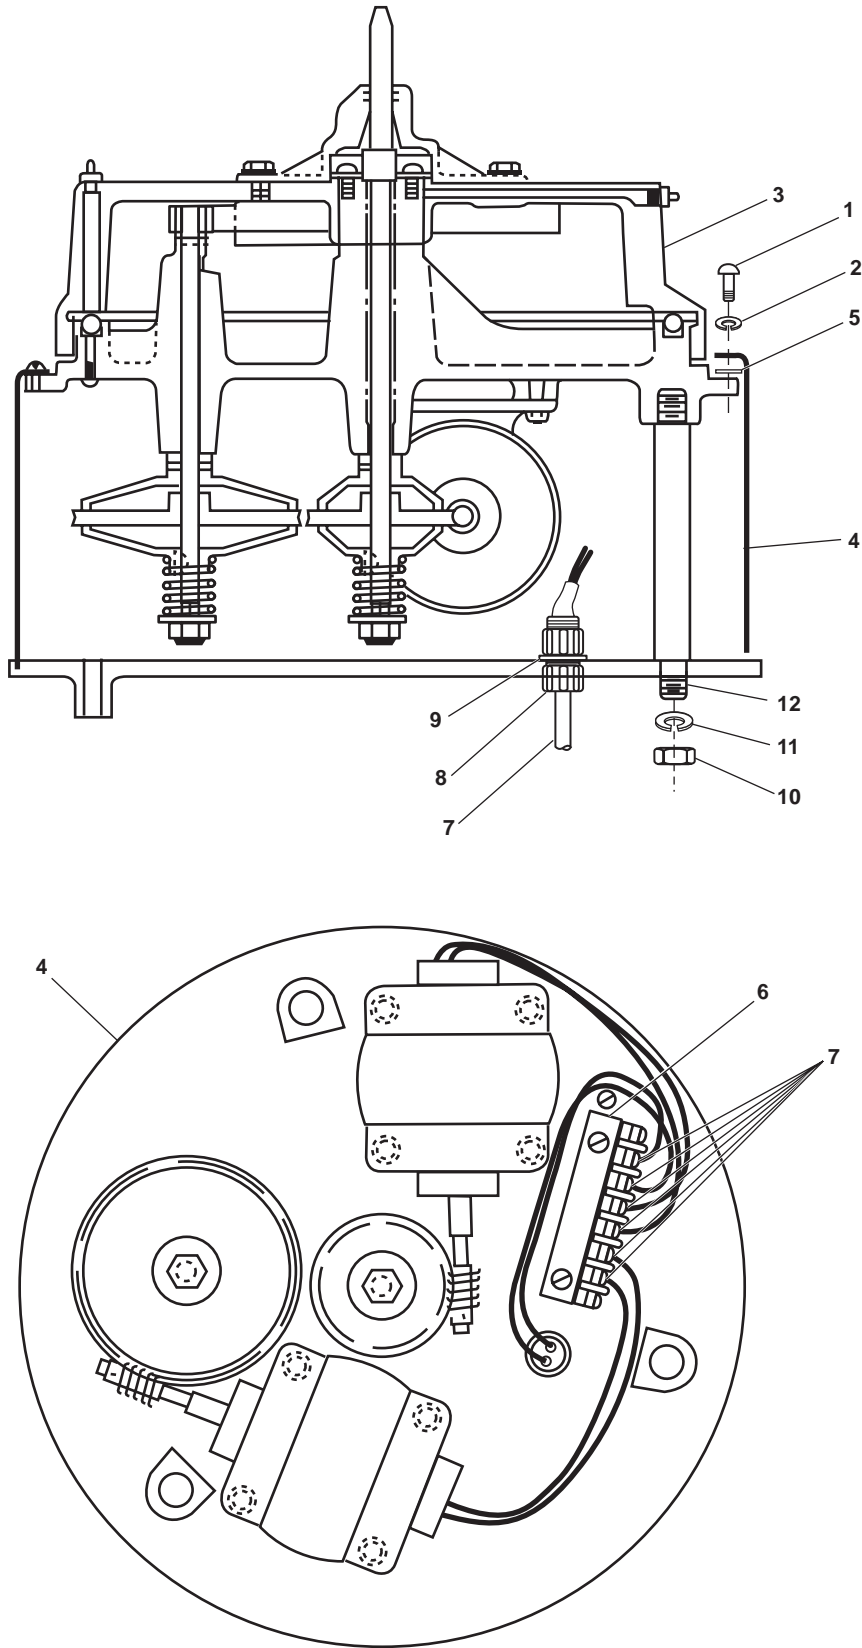

Figure 3. Searchlight Base Assembly
2. Remove the eight screws (figure 3, item 1) and eight lockwashers (figure 3, item 2) from the upper base assembly (figure 3, item 3). Discard the lockwashers.
3. Remove the upper base assembly (figure 3, item 3) from the lower base assembly (figure 3, item 4).
4. Remove the gasket (figure 3, item 5) from the lower base assembly (figure 3, item 4). Discard the gasket.
5. Use a multimeter to check for voltage at the terminal block (figure 3, item 6). If voltage is present, ensure that the proper circuit breaker is secured, locked out, and tagged out (FM 55-502). If no voltage is present, continue with the procedure.
6. Label and remove the wiring (figure 3, item 7) from the terminal block (figure 3, item 6).
7. Loosen the stuffing tube (figure 3, item 8) and packing assembly (figure 3, item 9).
8. Remove the wiring (figure 3, item 7) from the lower base assembly (figure 3, item 4).
9. Remove the three nuts (figure 3, item 10) and three lockwashers (figure 3, item 11) from the studs (figure 3, item 12). Discard the lockwashers.
10. Remove the lower base assembly (figure 3, item 4) from its foundation.
1. Install the lower base assembly (figure 3, item 4) on its foundation.
2. Install the three nuts (figure 3, item 10) and three new lockwashers (figure 3, item 11) on the studs (figure 3, item 12).
3. Install the wiring (figure 3, item 7) in the lower base assembly (figure 3, item 4).
4. Tighten the stuffing tube (figure 3, item 8) and packing assembly (figure 3, item 9).
5. Connect the wiring (figure 3, item 7) to the terminal block (figure 3, item 6) using the labels from step 6 of Removal as a guide. Remove the labels.
6. Install a new gasket (figure 3, item 5) on the lower base assembly (figure 3, item 4).
7. Install the upper base assembly (figure 3, item 3) on the lower base assembly (figure 3, item 4).
8. Install the eight screws (figure 3, item 1) and eight new lockwashers (figure 3, item 2) in the upper base assembly (figure 3, item 3).